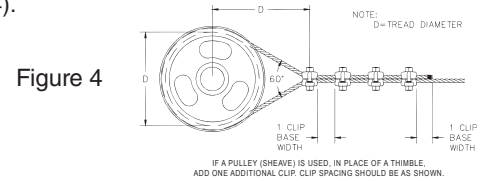

Figure 4
4. If a pulley (sheave) is used in place of a thimble, add one additional Fist Grip. Fist Grip spacing should be as shown (See Figure 4).
If a pulley (sheave) is used for turning back the wire rope, add one additional clip. See Figure 4.